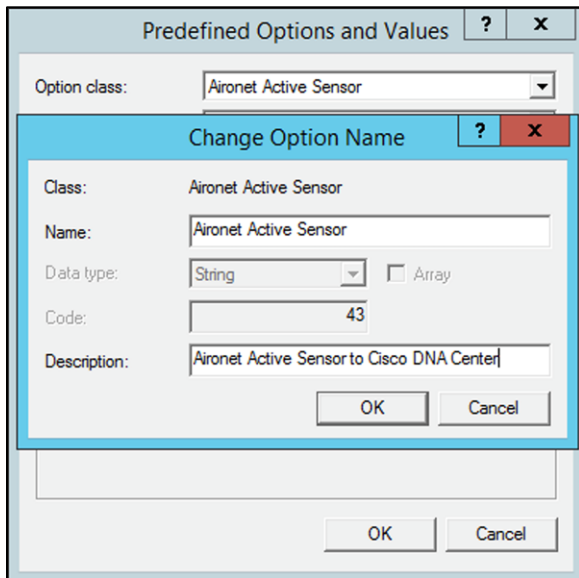

Figure 35.
4. A **Change Option Name** dialog box will appear; enter the following and click **OK (Figure 35)**.